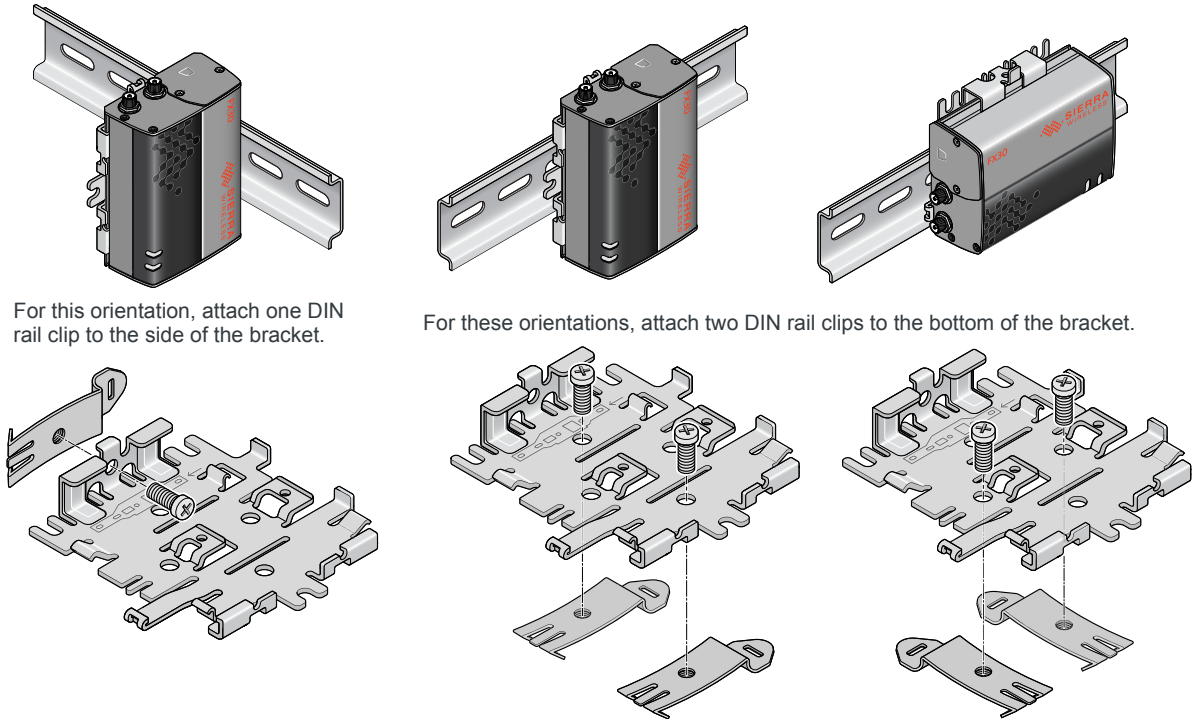

Figure 2-8: Attaching the DIN rail clips
1. Attach the DIN rail clips to the bracket as shown in Figure 2-8.
4. Attach the FX30S to the DIN Rail. See Figure 2-8.